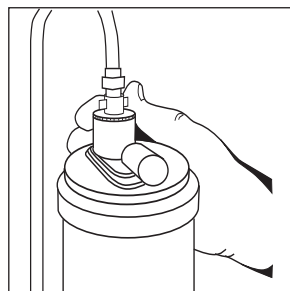

Figure 3
5. For high output humidification, thread the bottle adapter directly to the extension tube air outlet **Figure 3**.